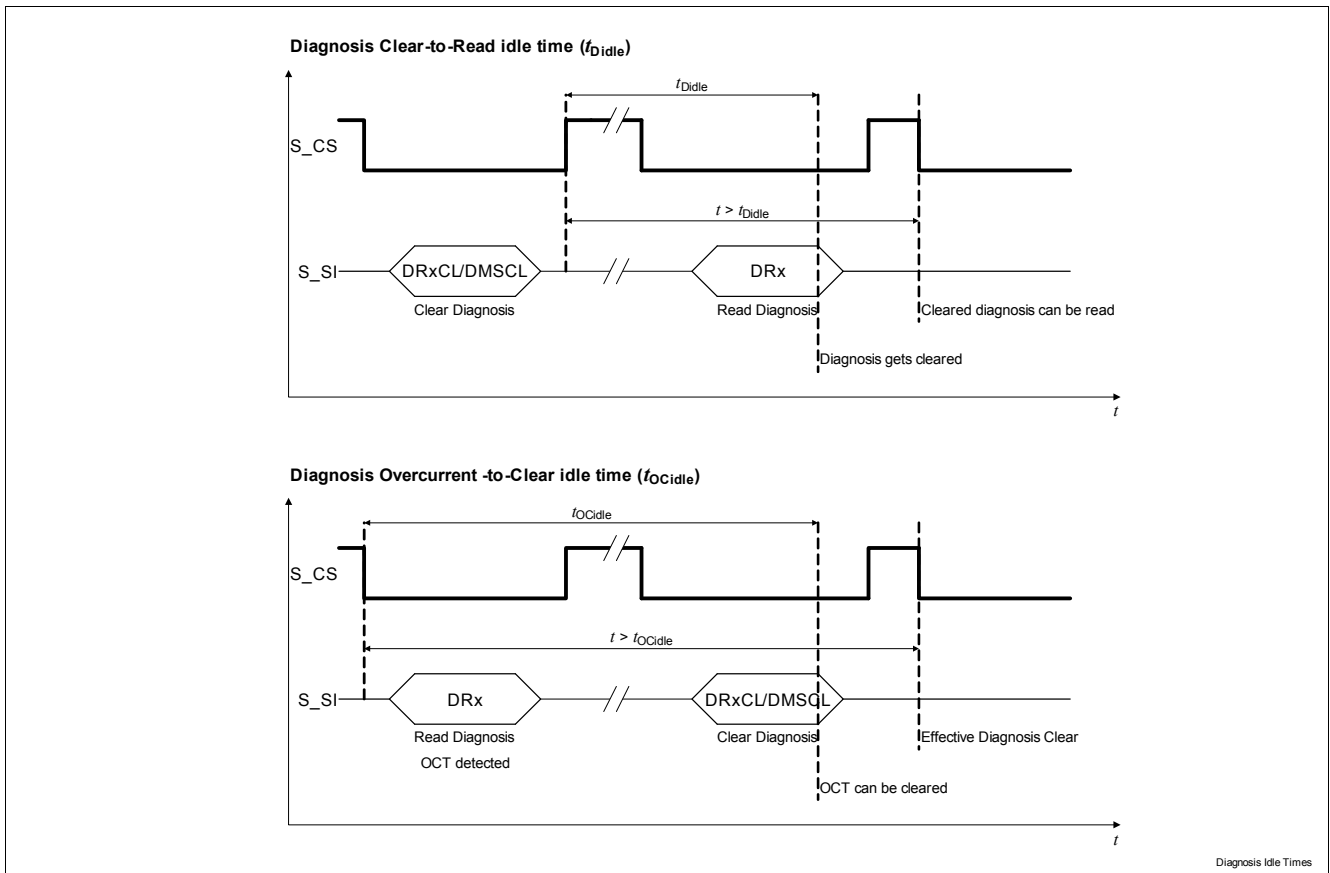

Figure 40 Diagnosis idle times
When issuing a Diagnosis Register Clear command (DRxCL or DMSCCL), the idle time t_{DIdle} needs to elapse, from the CS low-to-high transition of the clear command, before the register content is effectively cleared (Figure 40); this time has to be taken into account when trying to read the Diagnosis register content after a clear, see Chapter 11.3 for t_{DIdle} definition.
After an overcurrent entry is stored in the diagnosis register (OC), the idle time t_{OCIdle} needs to elapse before a clear command can effectively clear the entry; if trying to clear the Diagnosis register after an OCT entry is read (Figure 40), this time has to be taken into account starting from the CS high-to-low transition of the previous read command, see Chapter 11.3 for t_{OCIdle} definition.